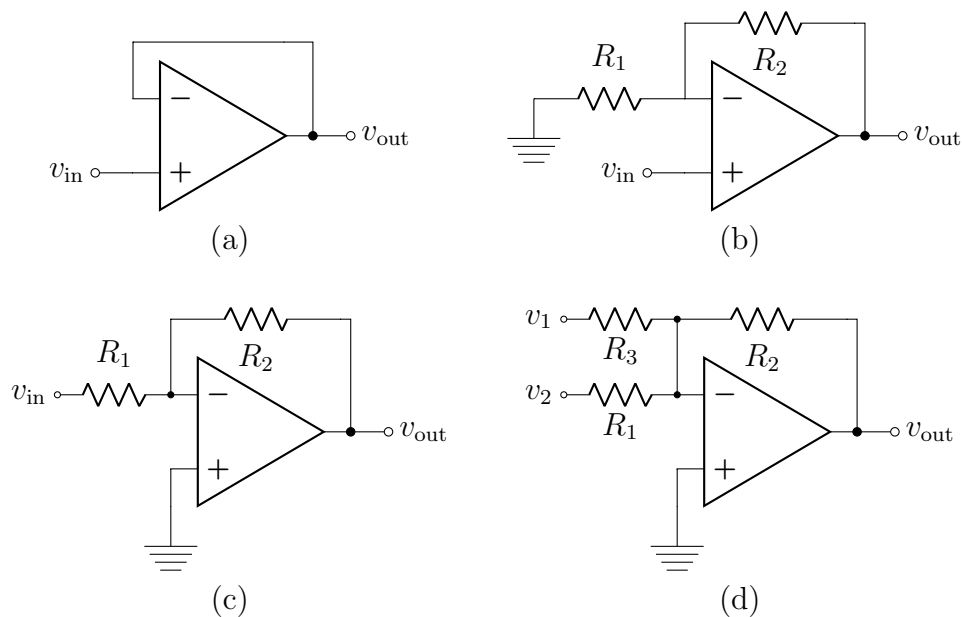

Figure 3: Common Op-Amp circuits: (a) Follower, (b) Non-Inverting Amplifier, (c) Inverting Amplifier, and (d) Adder.
- 1) Calculate the gain for all four circuits in Fig. 3.
In this section you will build the four common op-amp circuits shown in Fig. 3 using a single LM741 op-amp. In all four circuits use $R_1 = 22 \text{ k}\Omega$, $R_2 = 220 \text{ k}\Omega$, $R_3 = 22 \text{ k}\Omega$ wherever they appear. The power supply connections are not shown, but should be provided using both channels of your bench-top DC supply as $V_+ = +10 \text{ V}$ and $V_- = -10 \text{ V}$.